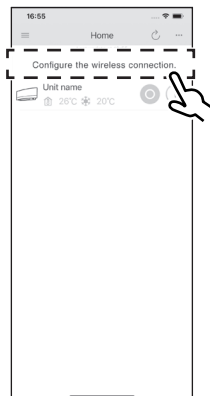

Fig. 2
2. Open the DAIKIN Mobile Controller application and select “Configure the wireless connection” (Fig.2) and connect to your home network as per the on-screen instructions.